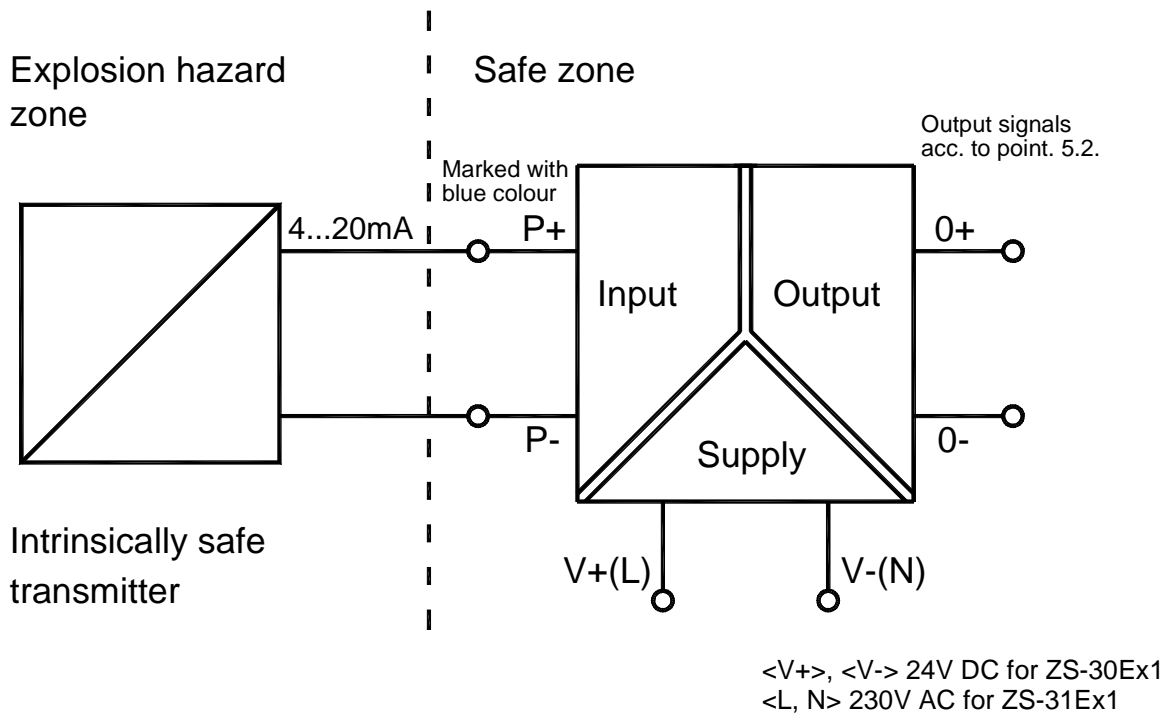

Fig. 3. Block diagram of ZS–30Ex1 and ZS–31Ex1 repeater power supply.
8.2. ZS–30Ex1 and ZS–31Ex1 repeater power supply should be connected in accordance with fig. 3. Only the circuits of intrinsically safe devices (e.g. converters) of "ia" and "ib" categories, not having internal sources of power supply, can be connected to <P+> and <P-> input terminals, which are marked with a blue plate.